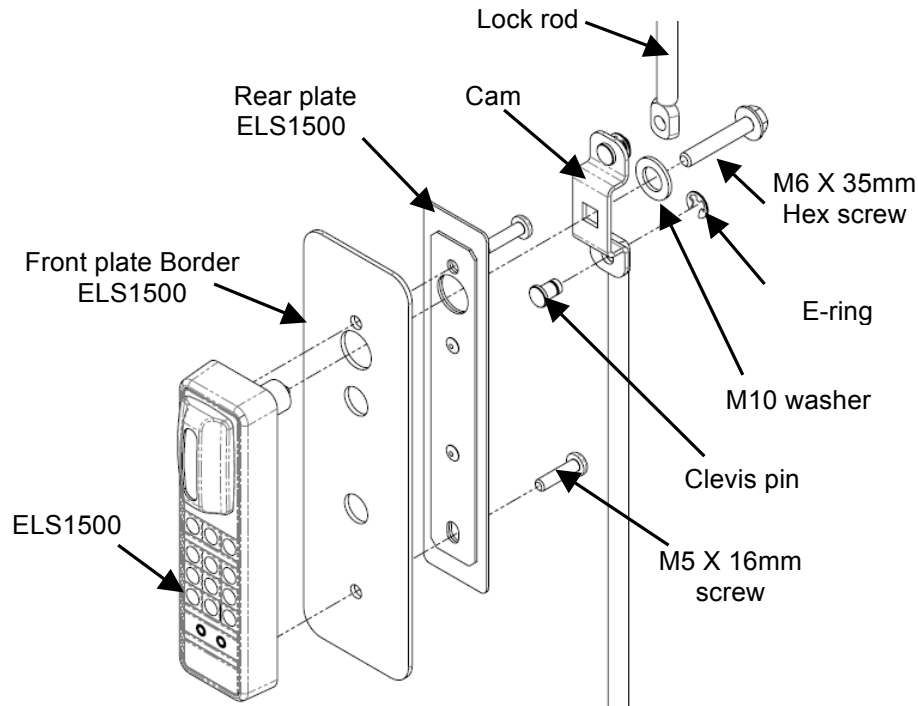

Fig. 5
1. Install the two point ELS1500 (Fig. 5) onto rear solid door.